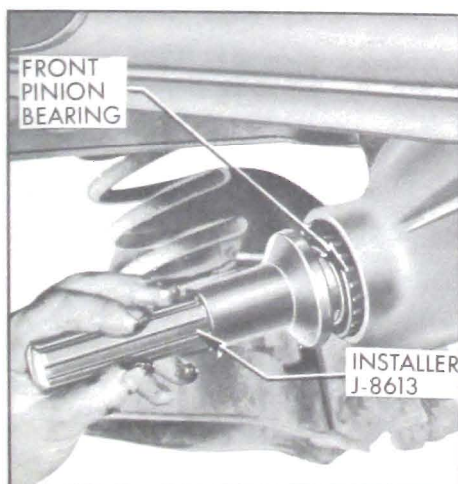

Figure 6-25—Installing Front Pinion Bearing
2. Oil front pinion bearing and place in position on pinion. Hold pinion fully forward and drive front pinion bearing over pinion until seated using Installer J-8613. See Figure 6-25.